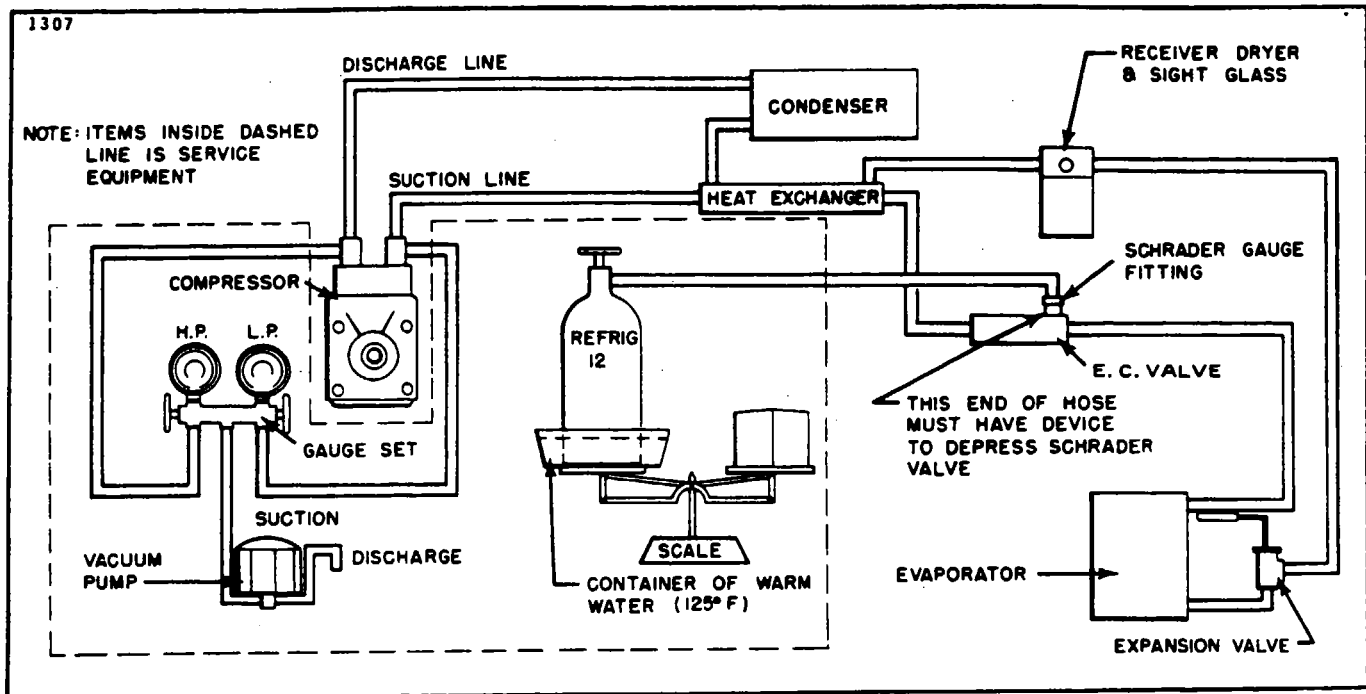

Figure 13-26. Charging Hookup
- a. Remove the access panel at the rear of the nose baggage compartment to gain access to the Evaporator Control Valve and connect the refrigerant charging hose to the valve fitting on the Evaporator Control Valve (refer to Figure 13-26) and purge the charging hose of air.
- b. Connect a charging hose to a refrigerant cylinder and also to the Schrader gauge fitting on the Evaporator Control Valve. (Refer to Figure 13-26.)